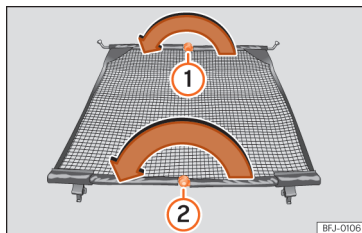

Fig. 202 Folding in the net partition.
- Press on the release button >>> Fig. 202 ① and bend the cross rod in the direction of the arrow with the button pressed.
- Press on the release button >>> Fig. 202 ② and bend the cross rod in the direction of the arrow with the button pressed.